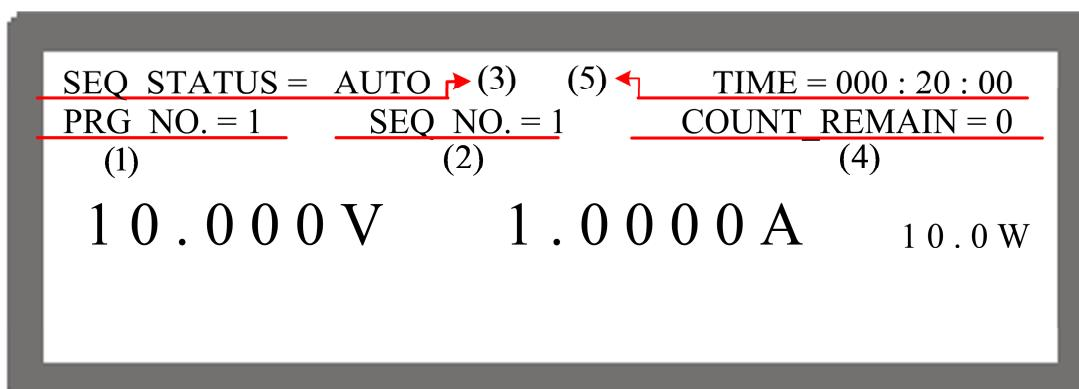

Figure 4-17
Figure 4-17 shows the main execution page of LIST MODE. Items (1)-(5) in the figure are explained below.